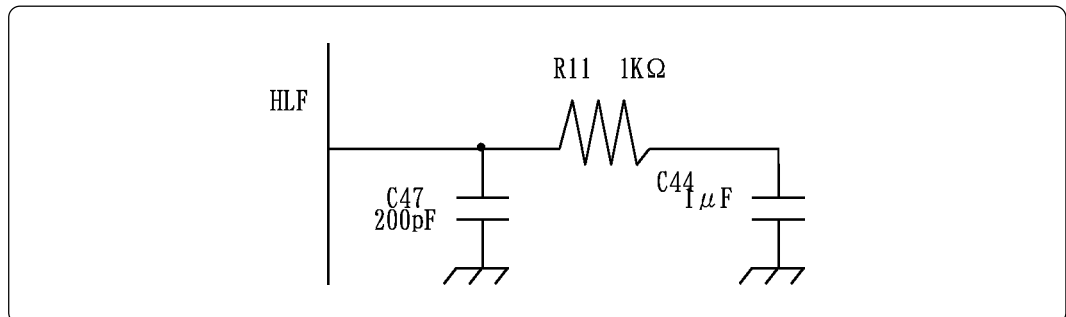

Figure 4.9 HLF signal circuit
(2) Figure 4.9 shows the part numbers and the constants of the parts of the signal HLF.